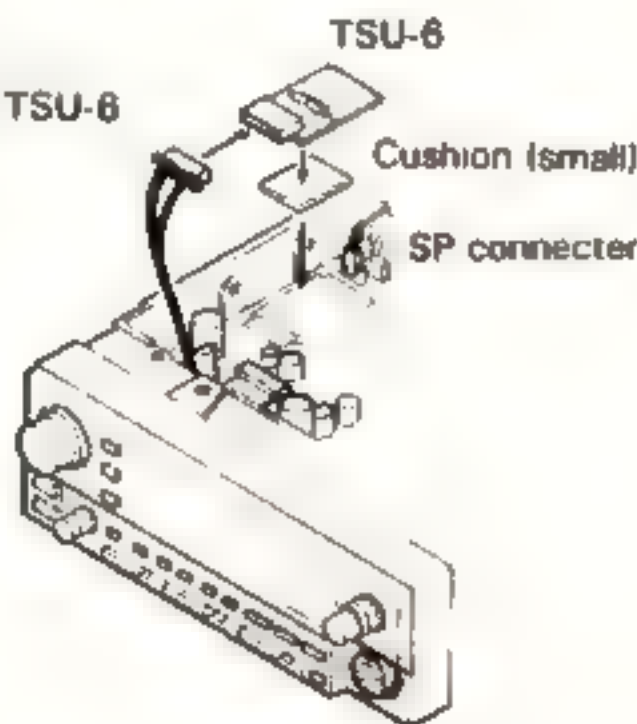

Fig. 3
6. Attach the cable from TSU 6 as shown in the diagram. (Fig. 3)